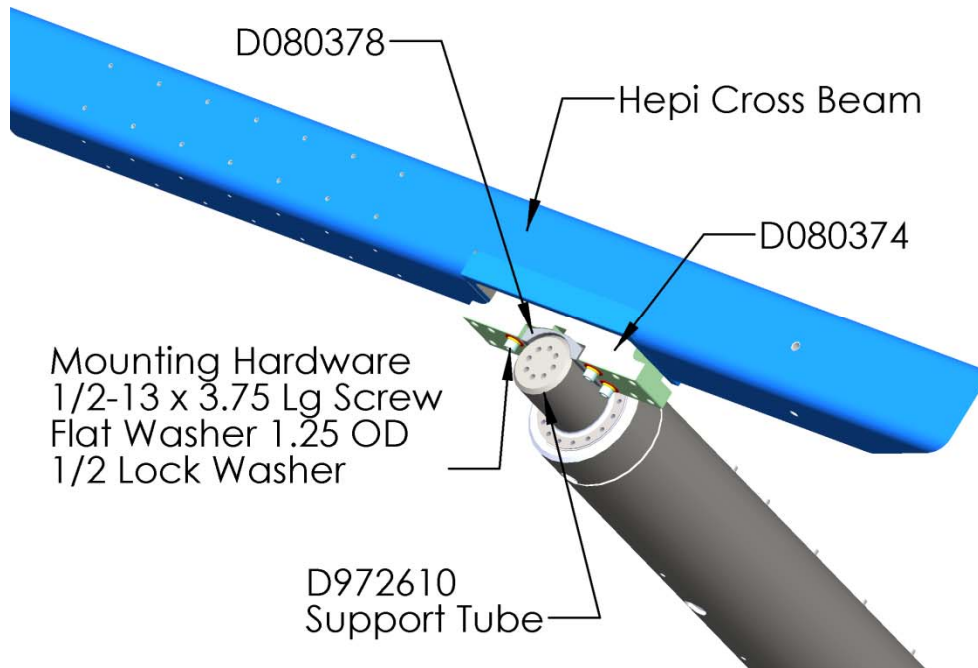

Figure 9
6. Install clamp base D080374 to cross beam hand tighten the mounting screws, D080374 must be allowed to float for adjustment to the Support tube Figure 9. **This needs to be done to both sides of the beam simultaneously.**
6.1 Place Clamp sleeve (D080378) to support tube on D972610 Support Tube Figure 9 now lower the Cross Beam with D080374 attached on to D972610 and D080378. As you place the cross beam back in place monitor the load cell readings. This is important the weight displayed by the digital read out should be around 475 lbs.
6.4 Tighten the Clamp Base mounting screws, (Alloy Steel Figure 9), to a torque of 100 ft*lbs in increments of 20 ft*lbs alternating diagonally.